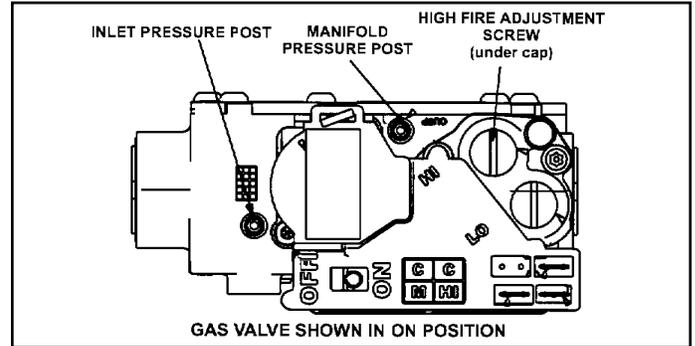

Figure 75.
- Move gas valve switch to OFF. See Figure 75.
- Move gas valve switch to ON. See Figure 75.
An inlet pressure post on the inlet side of the gas valve provides access to the supply pressure. See Figure 75. Back out the 3/32 Hex screw one turn, connect a piece of 5/16" tubing and connect to a manometer to measure supply pressure.
1. A manifold pressure post located on the gas valve provides access to the manifold pressure. See Figure 75. Back out the 3/32 Hex screw one turn, connect a piece of 5/16" tubing and connect to a manometer to measure supply pressure.